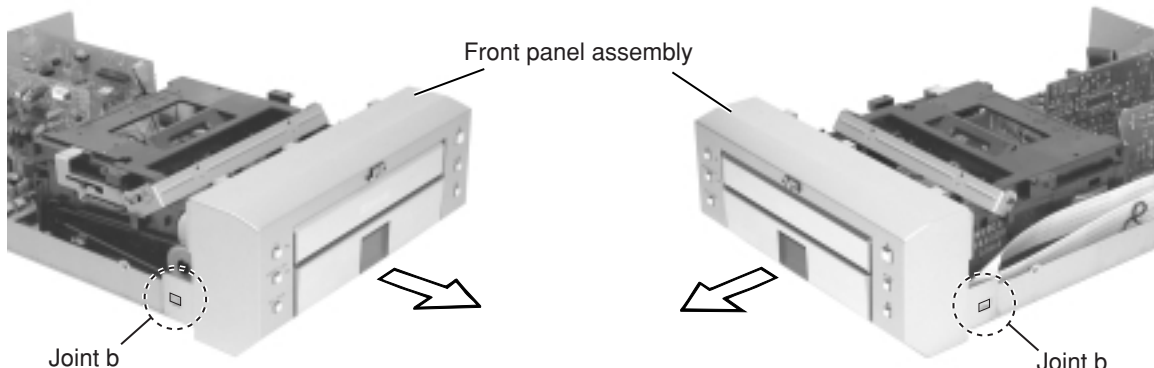

Fig. 5
■ **Detaching the mechanism** (Fig. 5 to 11)